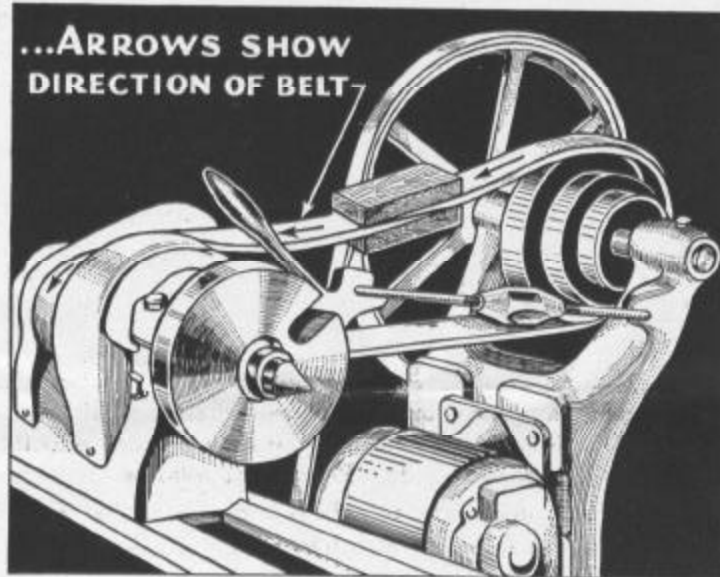

Fig. 6. Direction of splice on a 9" Horizontal Drive.
will lap as shown above and in Figs. 6 and 7; also note if there are any other splices in the belt, as all splices should slant in the same direction. Smoothing can be accomplished by using a rasp or by drawing a sharp hack saw blade diagonally across the tapered ends.
- d. Place the belt around the cone pulleys, ready for cementing. The outside lap should point in the direction the belt is running, as shown in Figs. 6 and 7. This is to prevent the belt from opening up while running.